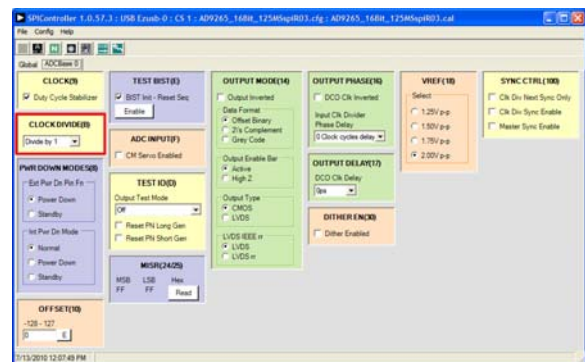

Figure 10. SPIController, CLOCK DIVIDE(B) Box
3. In the **ADCBASE 0** tab of the **SPIController** window, find the **CLOCK DIVIDE(B)** box (see Figure 10). If using the clock divider, use the drop-down box to select the correct clock divide ratio, if necessary. See the appropriate part data sheet; the **AN-878** Application Note, *High Speed ADC SPI Control Software*; and the **AN-877** Application Note, *Interfacing to High Speed ADCs via SPI*, for additional information.
- Note that other settings can be changed on the **ADCBASE 0** tab (see Figure 10). See the appropriate part data sheet; the AN-878 Application Note, *High Speed ADC SPI Control Software*; and the AN-877 Application Note, *Interfacing to High Speed ADCs via SPI*, for additional information on the available settings.